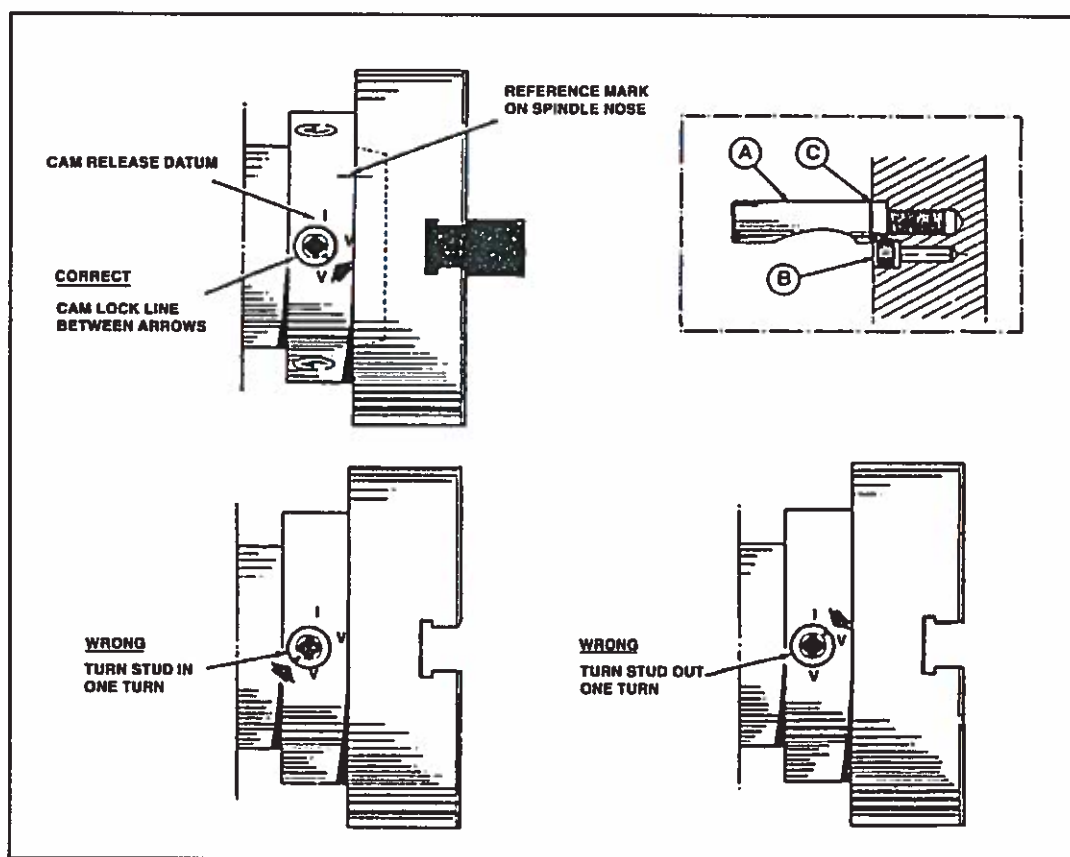

Fig.7
When fitting chucks or faceplates, ensure that the spindle and chuck tapers are scrupulously clean and that all cams lock in the correct positions; see Fig.7. It may be necessary when mounting a new chuck to re-set the camlock studs (A). To do this, remove the cap-head locking screws (B) and set each stud so that the scribed ring (C) is flush with the rear face of the chuck-with the slot lining up with the locking screw hole (see inset, Fig.7.)